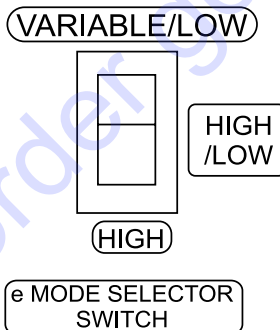

Figure 31. E-Mode Selector Switch (CC Mode)
- Place e-Mode selector switch (Figure 31) in the desired position as defined by Table 19. This switch is a 3-position rocker switch.